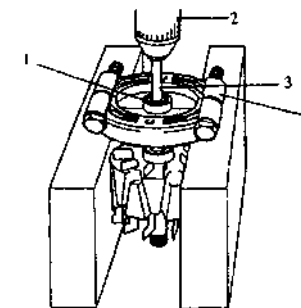

Figure 6.1-10
(7) When disassembling the rear casing, please use a hydraulic machine tool. See Figure 6.1-10.